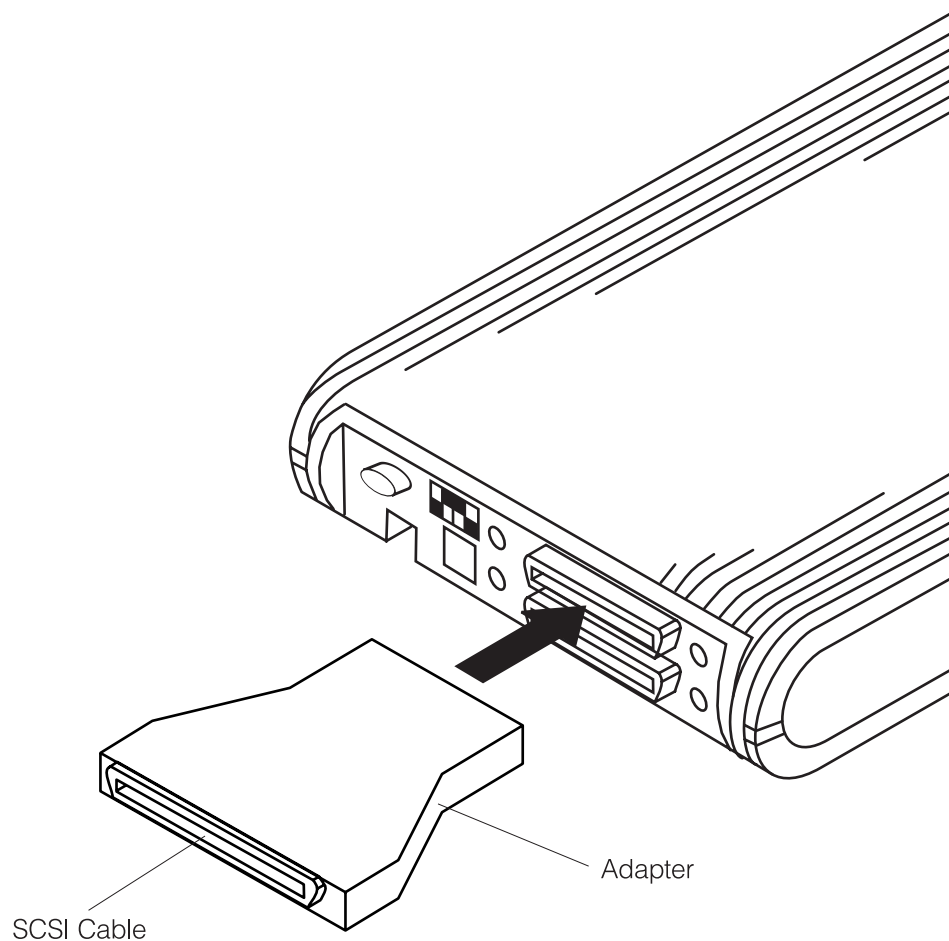

Figure 4. Reconnecting the Signal Cable
- \_\_\_ 11. At the rear of the optical disk drive unit, attach the SCSI signal cable that you removed in Step 1 on page 5 to the adapter as shown in Figure 4. Attach the cable and the adapter to the upper SCSI connector on the drive assembly.